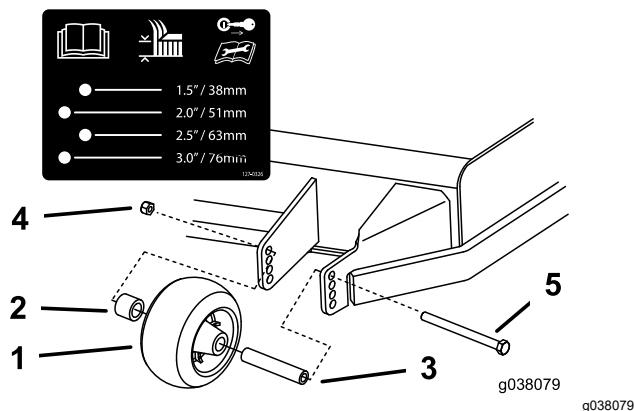

Figura 33
3. Reglai rolele anti-scalp conform Figura 33.